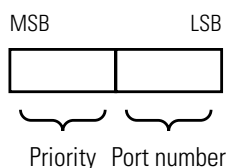

Fig. 33: Port identification
- ▶ If there are two paths leading away from a single bridge with the same root path costs, the port identification is used as the last criterion for determining which path is used (see Fig. 33). It decides which port is selected.